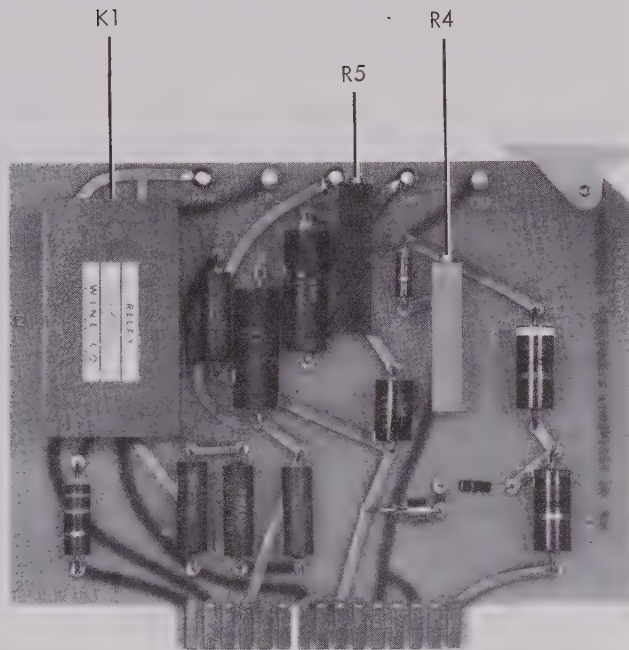

Figure 3-56. DC Reference Standard C02424300
g. DC Transfer Standard, Module A9. (See Figure 3-56) The dc Transfer Standard is made up of a temperature compensated zener reference diode with a very accurate resistor network to make three accurately known voltages available.